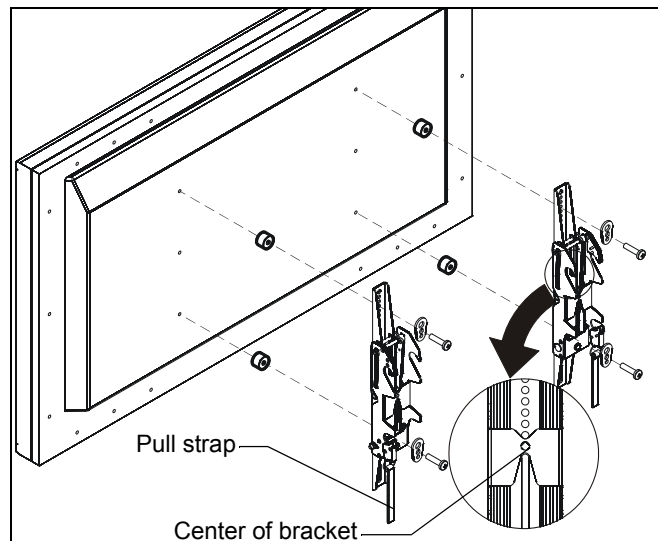

Figure 9
1. Align the center of the pull-out uprights (U and V) with center of screen. (See Figure 9)
2. Select correct screws, spacers (if necessary) and universal washers from the hardware bag (A-N) and attach brackets (U and V) to back of screen. (See Figure 9)